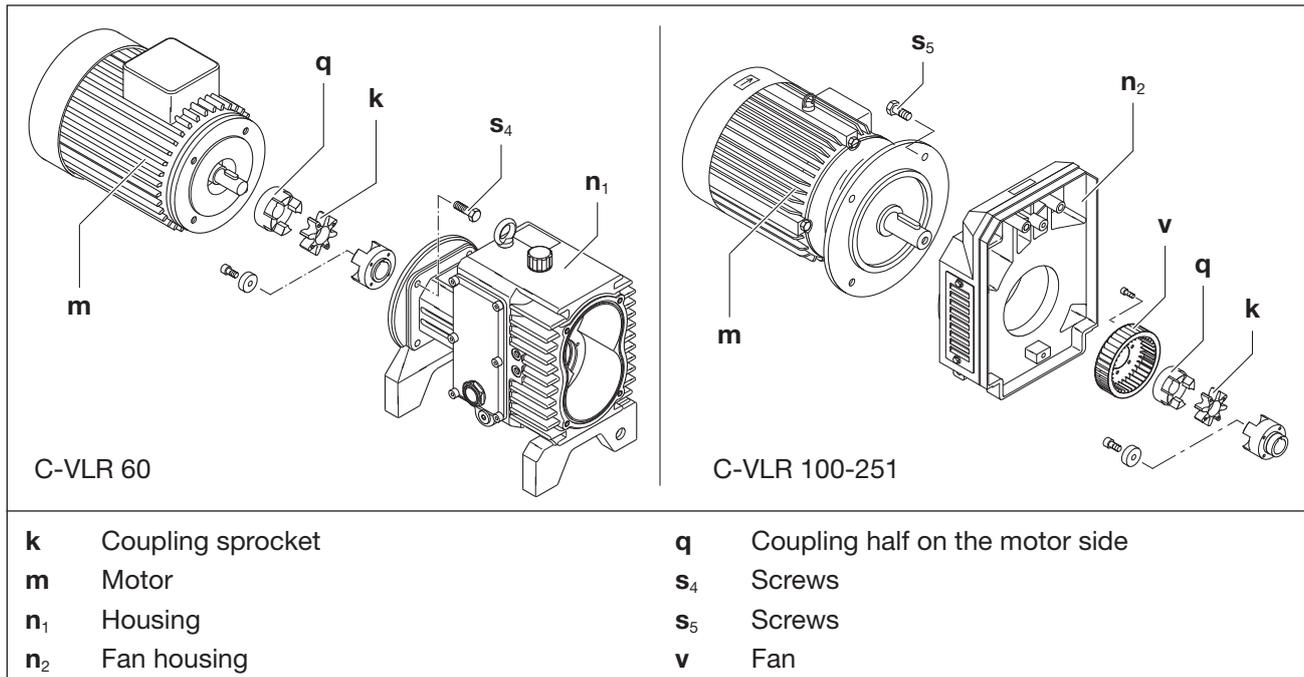

Fig. 10 Couplings C-VLR 60 and C-VLR 100 - 251
- Secure the lifting gear on the ring bolt of the motor (Fig. 10/m).
- Undo the screws (Fig. 10/s₄) on the housing flange (Fig. 10/n₁).
- Remove the motor axially with the half of the coupling on the motor side (Fig. 10/q) and suspend with the lifting device.
- Check the sprocket (Fig. 10/k). If the sprocket is damaged or worn, replace it.
- Axially push the motor with the coupling half again on the motor side (Fig. 10/q) and using the screws (Fig. 10/s₄), fix it to the flange (Fig. 10/n₁) of the casing.
- Release the screws (Fig. 10/s₅) from the motor flange.
- Axially remove the motor with the coupling half on the motor side (Fig. 10/q) from the fan housing (Fig. 10/n₂) and suspend it by lifting gear.
- Check the fan (Fig. 10/v) for damages and replace it, if necessary.
- Axially push the motor with the coupling half again on the motor side (Fig. 10/q) on the fan housing (Fig. 10/n₂) and fix it with the screws (Fig. 10/s₅) on the motor flange.